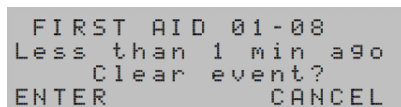

Figure 7-17: First Aid Alerts details
The screen in Figure 7-17 shows the Zone (01), Unit (08) and the time of event.